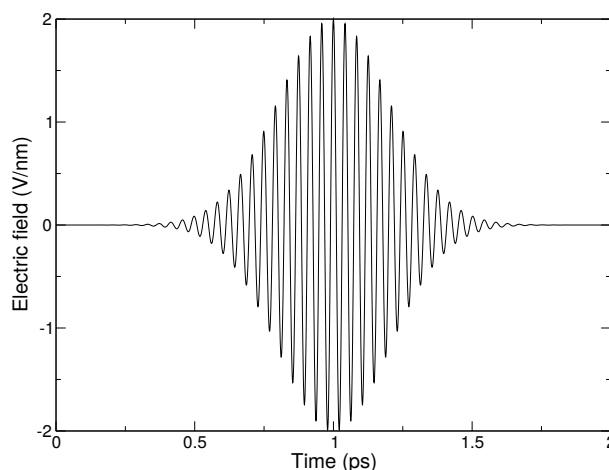

Fig. 5.46: A simulated laser pulse in GROMACS.
This simulated laser-pulse was applied to simulations of melting ice 146 (page 517). A pulsed electric field may look like Fig. 5.46. In the supporting information of that paper the impact of an applied electric field on a system under periodic boundary conditions is analyzed. It is described that the effective electric field under PBC is larger than the applied field, by a factor depending on the size of the box and the dielectric properties of molecules in the box. For a system with static dielectric properties this factor can be corrected for. But for a system where the dielectric varies over time, for example a membrane protein with a pore that opens and closes during the simulation, this way of applying an electric field is not useful. In such cases one can use the computational electrophysiology protocol described in the next section (sec. Computational Electrophysiology (page 460)).
yields an pulsed-oscillating electric field with  $E_0 = 2$  V/nm,  $\omega = 150$ /ps and  $t_0 = 5$  ps and  $\sigma = 1$  ps. Read more in ref. 146 (page 517). Note that the input file format is changed from the undocumented older version. A figure like Fig. 5.46 may be produced by passing the `-field` option to *gmx mdrun* (page 112).